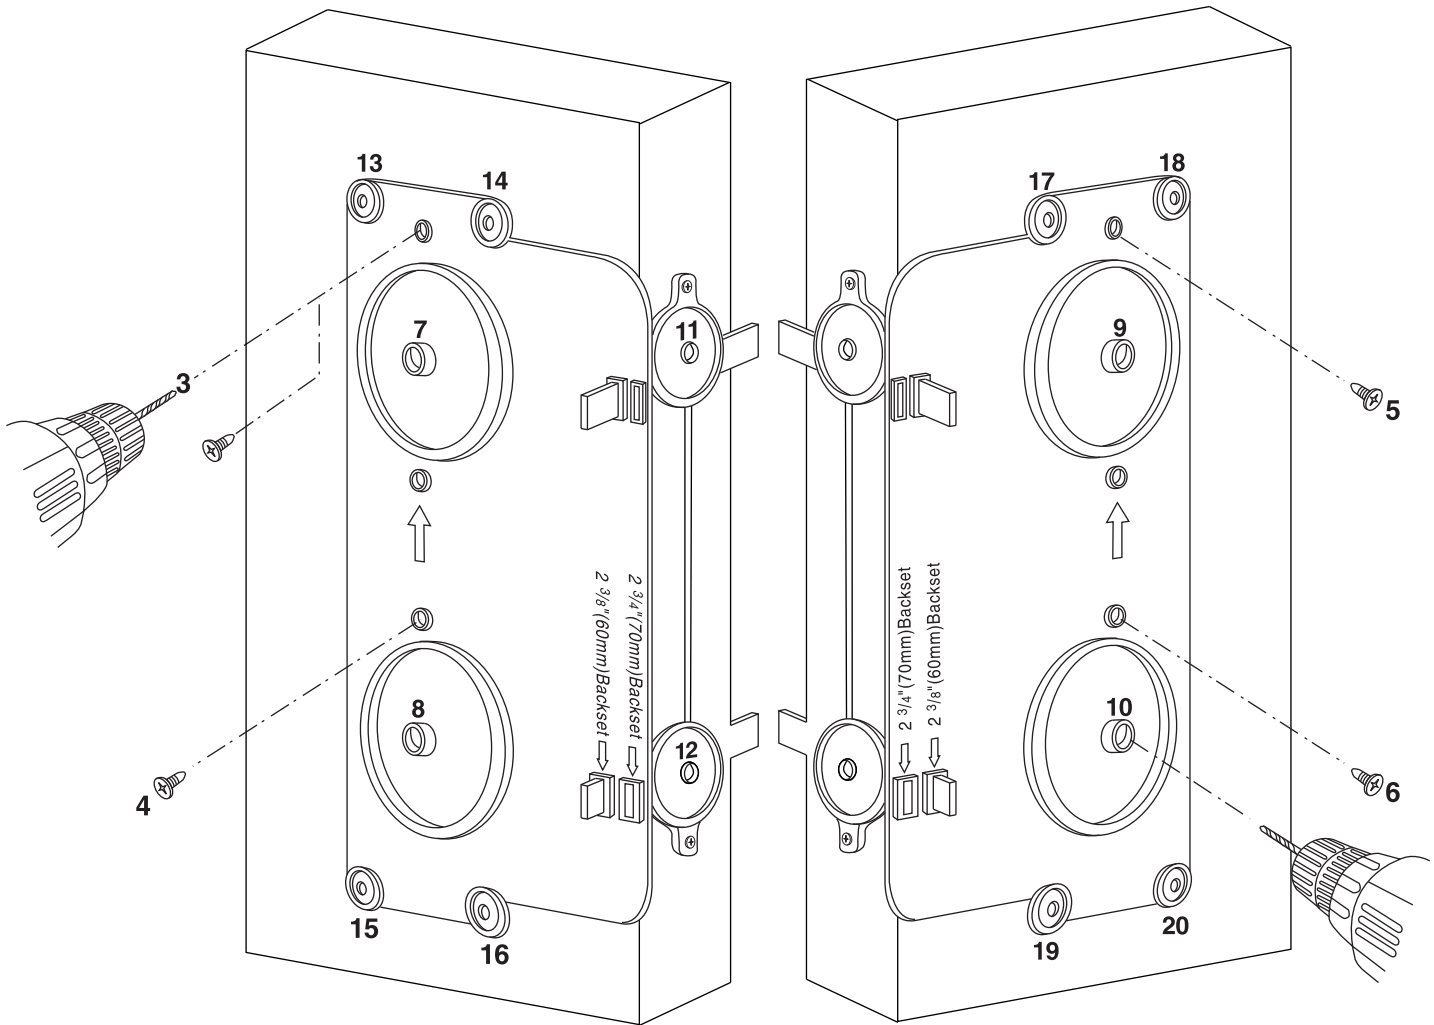

Figure 2
- e. Use 1/8" drill for holes 13~20 as a pre-drilled guide holes (Figure 2).